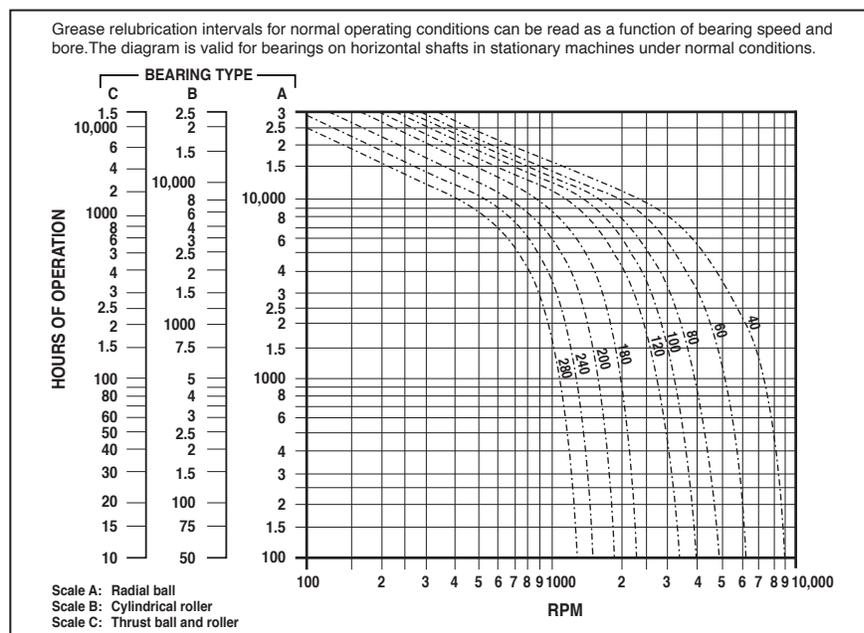

Figure 10. Grease relubrication intervals for rolling element bearings on horizontal shafts in stationary machines.
- Grease relubrication intervals.** Grease relubrication intervals for normal operating conditions are a function of bearing speed and bore size. Determine the relubrication interval from Figure 10 as follows: